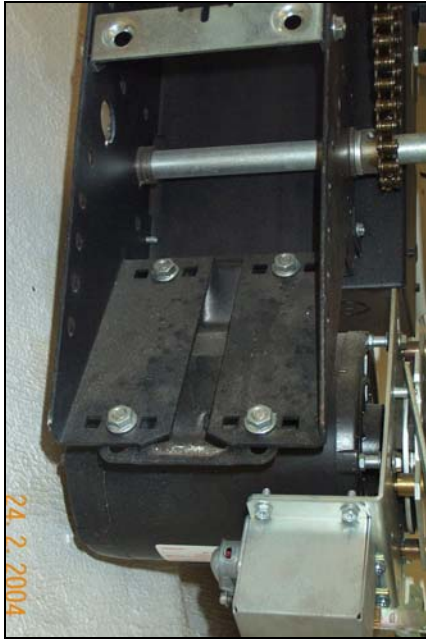

Figure 4: Retaining plate
- Loosen the motor retaining screws (Fig. 4) this will enable the motor to be lowered so the pulley belt can be removed.